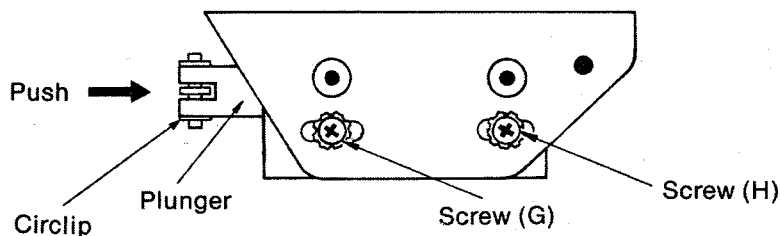

Fig. 7
- (3) With the plunger pushed all the way into the solenoid, move the plunger in the direction shown by the arrow in figure 7.
- (4) When it is moved, the pressure rollers will move closer to the capstan.
- (5) Move the plunger in the direction of the arrow to a point about 1 mm beyond where the pressure rollers contact the capstan, and then secure the solenoid.